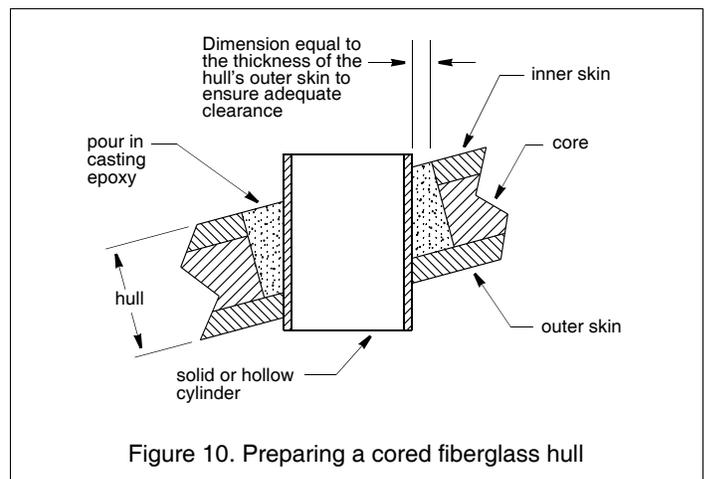

Figure 10. Preparing a cored fiberglass hull
1. Drill a 3mm or 1/8" pilot hole perpendicular to the waterline from inside the hull. If there is a rib, strut, or other hull irregularity near the selected mounting location, drill from the outside (see Figure 10). If the hole is drilled in the wrong location, drill a second hole in a better location. Apply masking tape to the outside of the hull over the incorrect hole and fill it with epoxy.
5. Coat a hollow or solid cylinder of the correct diameter with wax and tape it in place. Fill the gap between the cylinder and hull with casting epoxy. After the epoxy has set, remove the cylinder (see Figure 10).